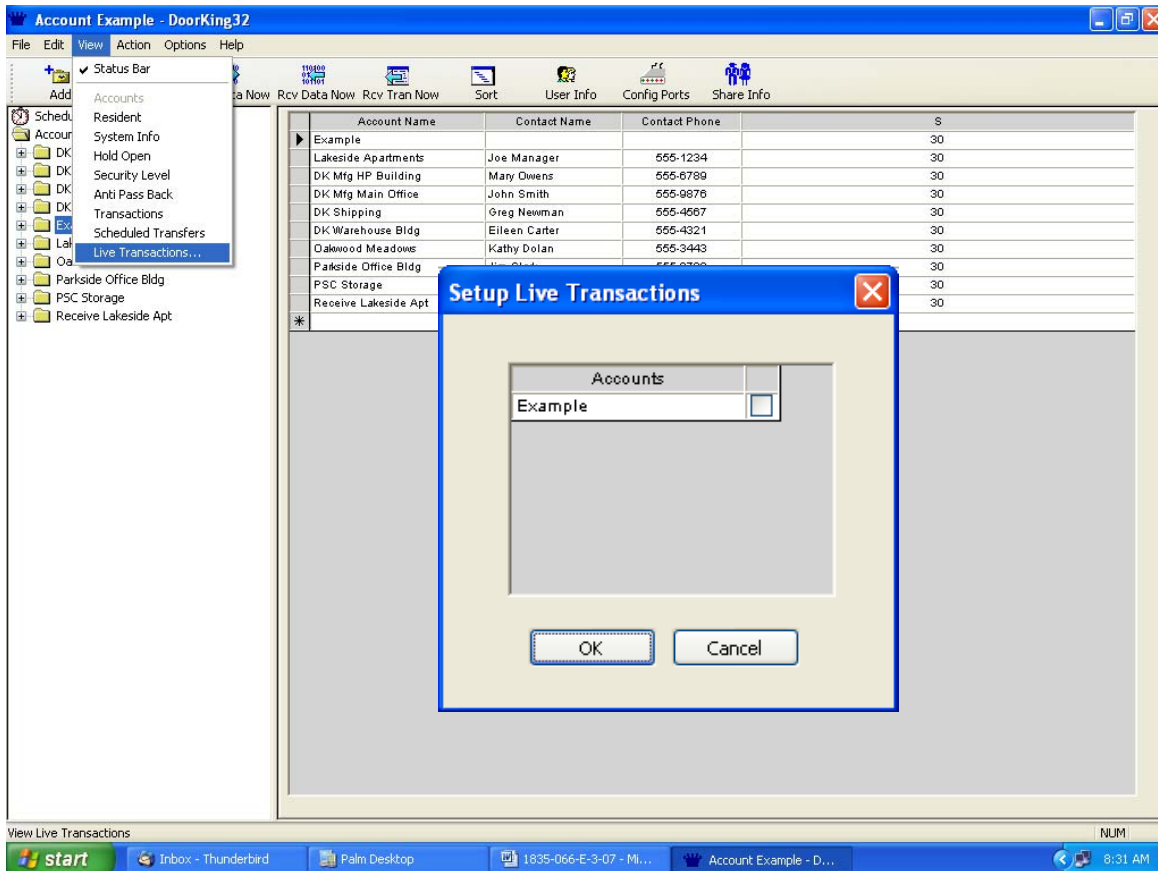

Figure 62
2. From the Setup Live Transactions window, select the account you want to view, then click OK (Fig 62).